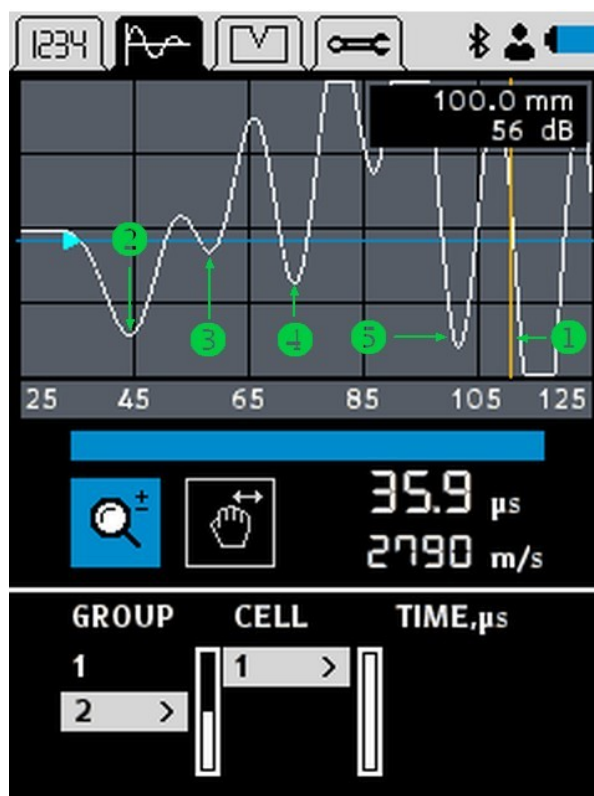

Figure 21: Search depth set wrong
In case of the thin sample the multiple reflections from the walls arrive at the receiver almost simultaneously, Figure 21. The superposition of the waves traveling along paths ① and ② (and other paths which are not depicted) diminishes the waveform events.[28] This results in significant time estimation errors.